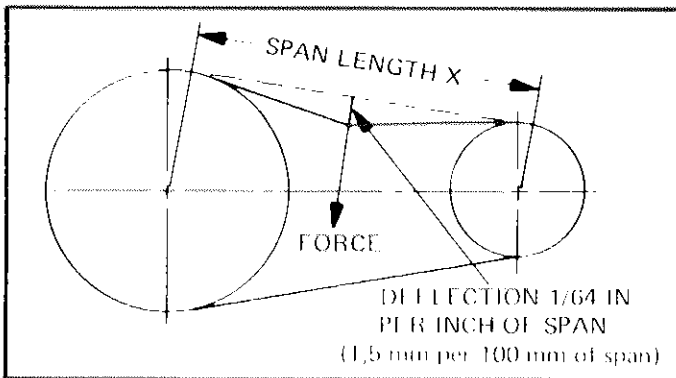

FIGURE 91
- 1 - Measure the span length, X. Refer to Figure 91.